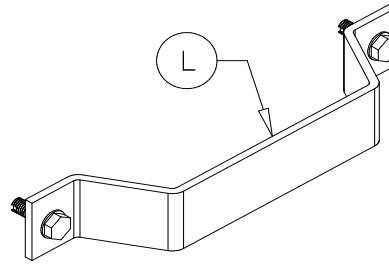

Figure 21
**Note:** The pivot arm guides (L) (see Figure 21) prevent the tarp from shifting to either side of the box when the tarp is in closed position.